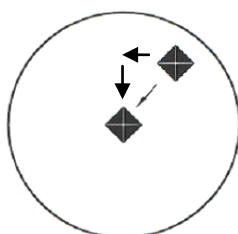

Fig 6-16 Image is randomly scattered
5. The image is randomly scattered. Refer to Figure 6-16.